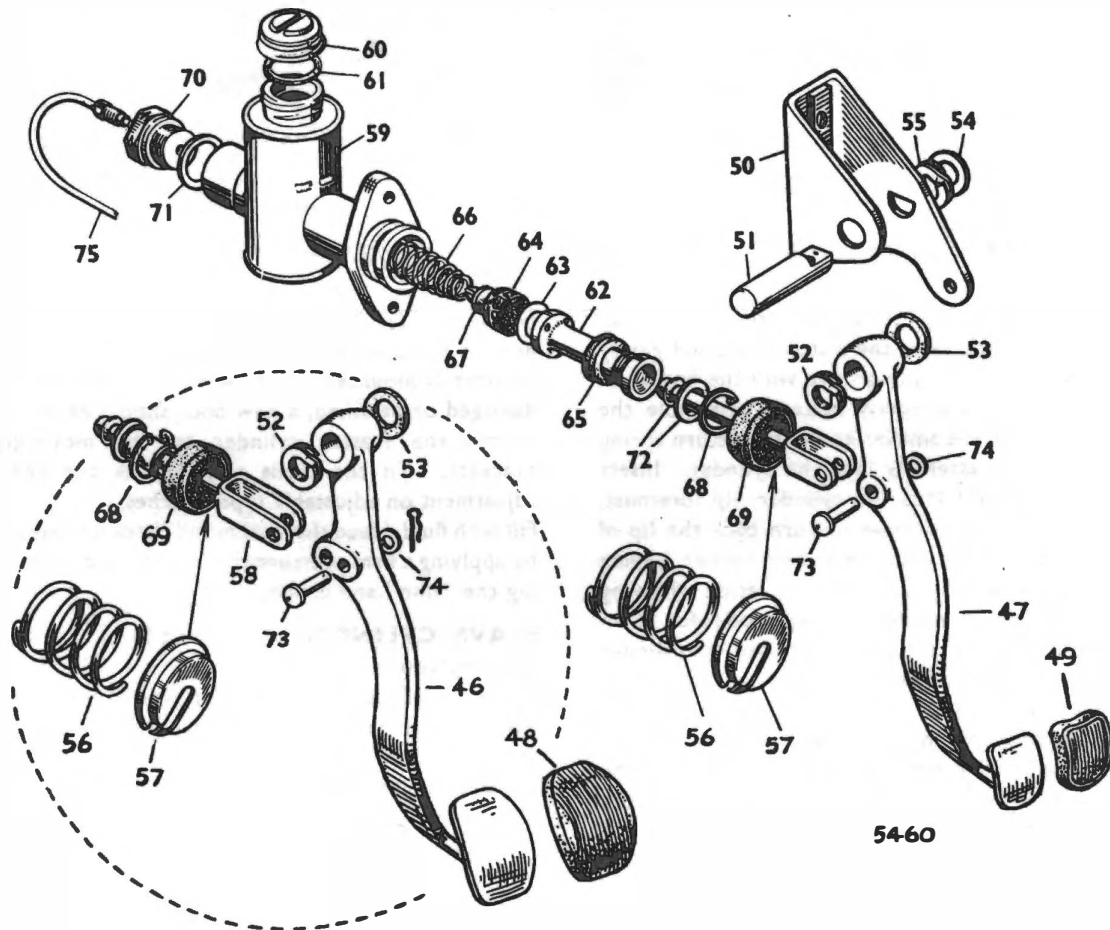

Fig. 2. Exploded view—Master cylinder and pedal linkages (Inset Alpine Series II and III cars)
Hydraulic withdrawal mechanism is employed, consisting of a master cylinder directly connected to the pedal (Fig. 2), and a hydraulic fluid pipe running to the operating cylinder, which in turn is attached by a rod to the withdrawal lever.
The pedal on Alpine Series II, III and IV cars has a two position adjustment (see inset Fig. 2). The position can be changed by securing the pedal (46) to the master cylinder push rod (58), with the clevis pin (73) in either of the two holes provided in the pedal.
**To remove (Fig. 2)**
Disconnect the pipe (75, Fig. 2) from the slave cylinder. Unhook the return spring at the end of the withdrawal lever and remove the slave cylinder fixing screws. The push rod (37) and boot (38) may be left attached to the car. (A return spring is not fitted to Alpine Series II, III and Rapier Series IIIA cars onwards).